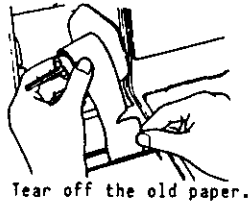

Fig. 10
3. Lift the printed journal together with the Journal Receiving Shaft and cut the journal paper at the edge of the Journal Paper Guide. (Fig. 10)